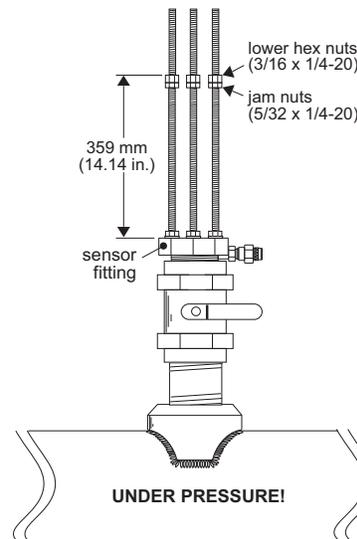

Fig. 8
- Thread one jam nut and lower hex nut onto each threaded rod so that the top surface of each nut is 359 mm (14.14 in.) from the top surface of the sensor fitting. Secure each hex nut with a jam nut. (Fig. 8)
- Wipe the sensor body with a dry, clean cloth. Orient the alignment hole on the sensor flange to point **downstream**. Place the slotted flange over the threaded rods. Lower the sensor into the fitting until the sensor flange rests on the lower hex and jam nuts. (Fig. 8)